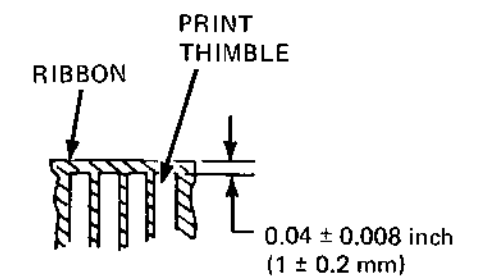

Figure 5-5 Ribbon Color Red Adjustment
- Move the ribbon change arm B up or down so that the gap between the ribbon top edge and the print thimble long finger top edge is  $0.04 \pm 0.008$  inch ( $1.0 \pm 0.2$  mm) (see Figure 5-5).